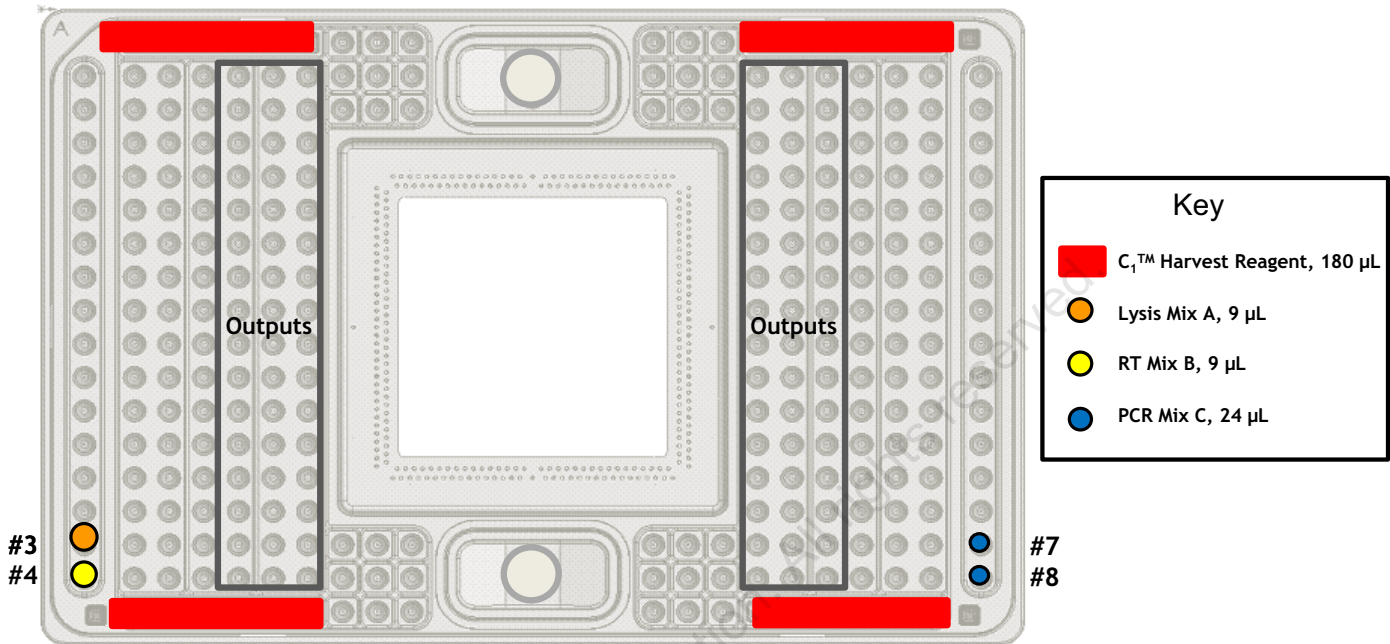

Figure 8 C₁TM chip Lysis, RT and PCR pipetting map
- 1 Pipette 180 µL of C₁TM Harvest Reagent into the four reservoirs marked with large solid red rectangles in Figure 8.